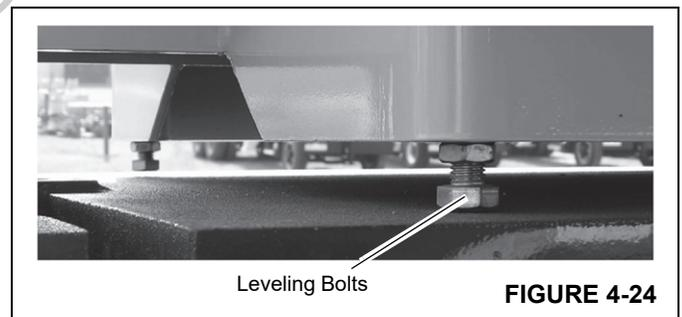

FIGURE 4-24
- Adjust the four counterweight leveling bolts (Figure 4-24) to eliminate any relative movement between the counterweight and the turntable.